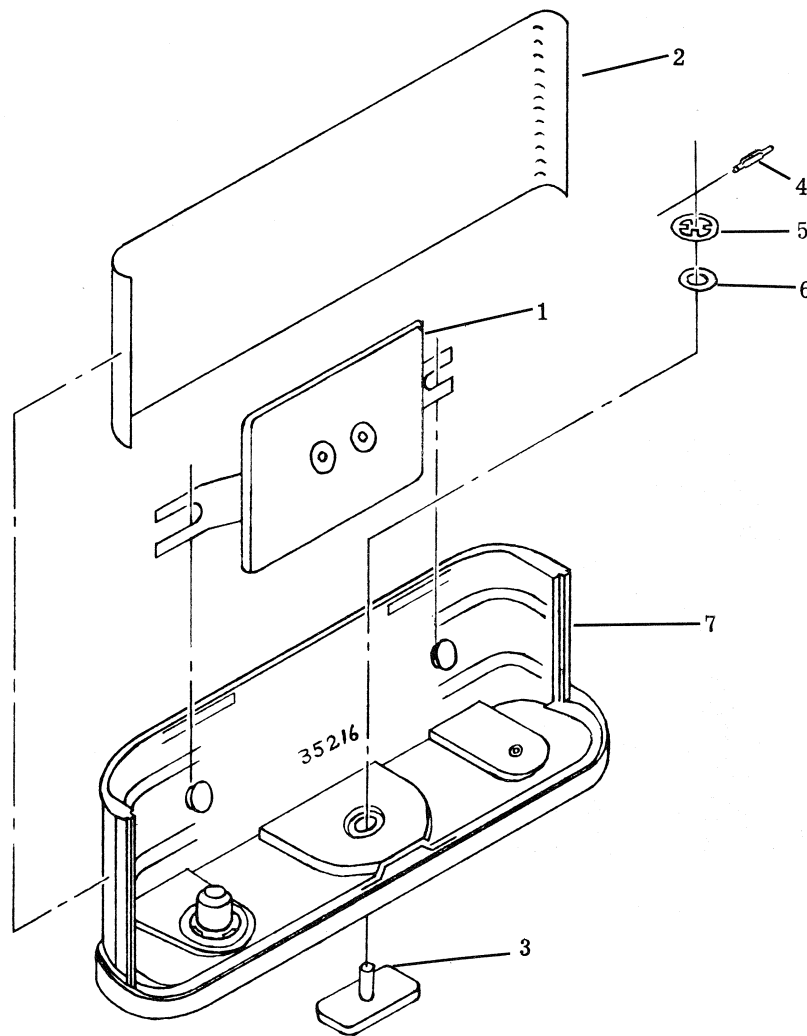

Figure 9. Back Cover, Exploded View
a. Remove the pad assembly (1 figure 9) by simultaneously pulling out on one side of the pad and pressing down on the spring arm.
**NOTE:** Do not remove the lock lever (3) unless necessary for replacement.
b. To remove the lock lever (3), drive the cross pin (4) from the end of the lock lever and gently pry the retaining ring (5) from the lever by lifting the edges gradually with a small screwdriver. Remove washer (6).